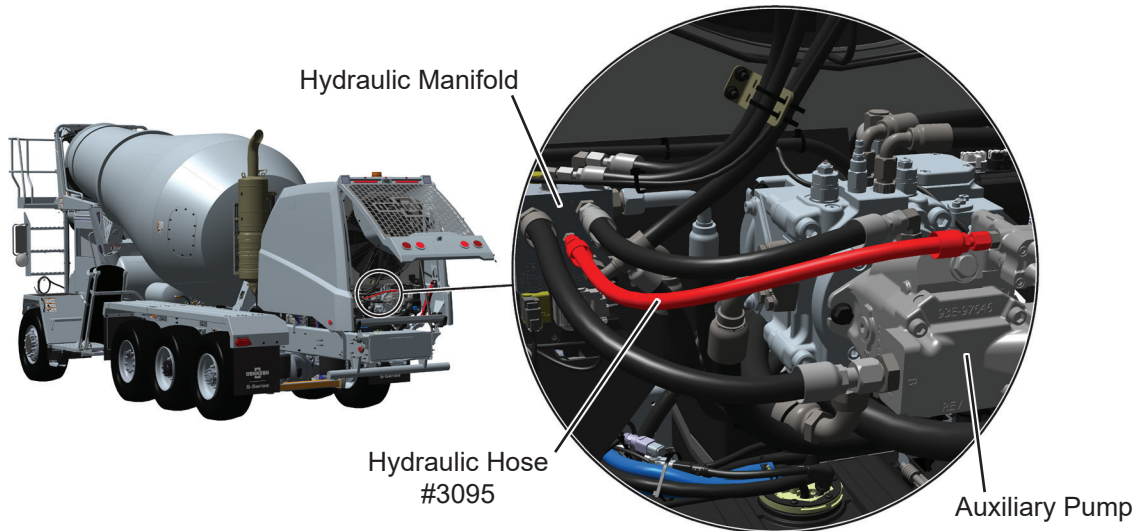

Figure 1 - Hydraulic Hose Removal
4. Locate auxiliary pump and hydraulic manifold. See Figure 1.
5. Disconnect and remove 26 inch hydraulic hose (#3095) from auxiliary pump and hydraulic manifold fittings. See Figure 1. Hydraulic hose will not be reused.